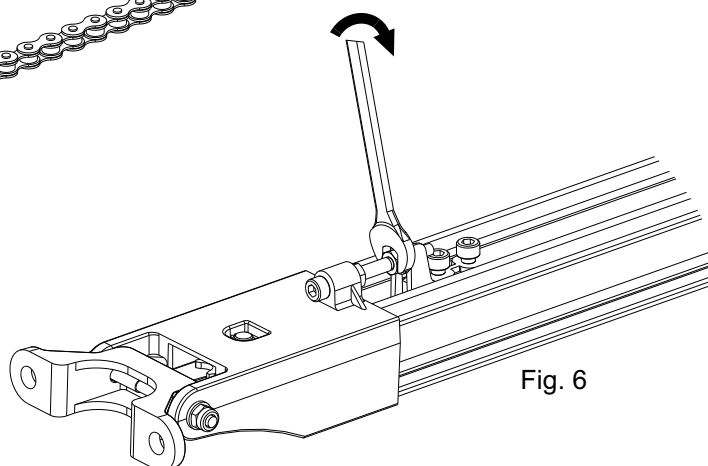

Fig. 6
- Slightly tighten the chain with a 10 key ( Fig.6)